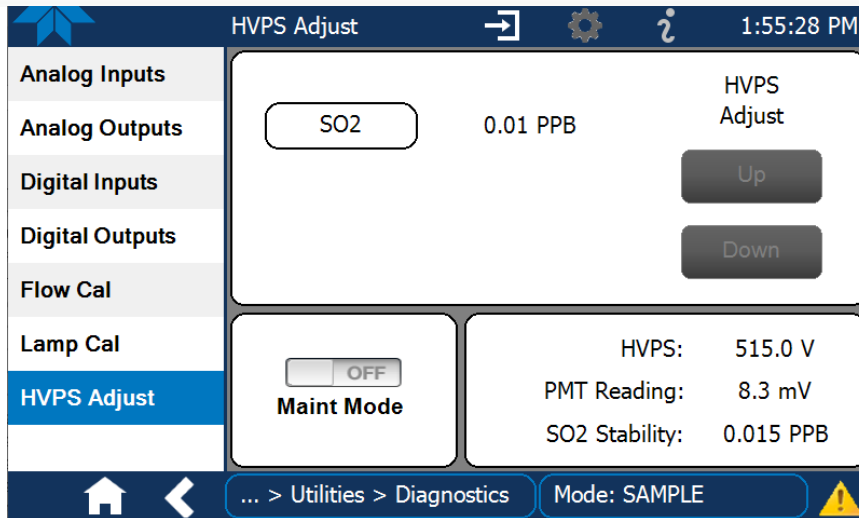

Figure 5-35. HVPS Adjust Menu
3. Return to Homescreen and navigate to Utilities>Diagnostics>HVPS Adjust (Figure 5-35).